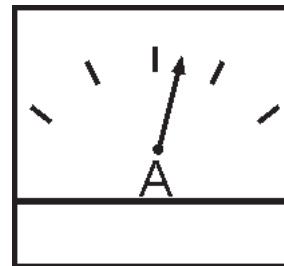

Figure 61. Ammeter (Load)
18. Observe the generator's ammeter (Figure 61) and verify it reads the anticipated amount of current with respect to the load. The ammeter will only display a current reading if the load is in use.